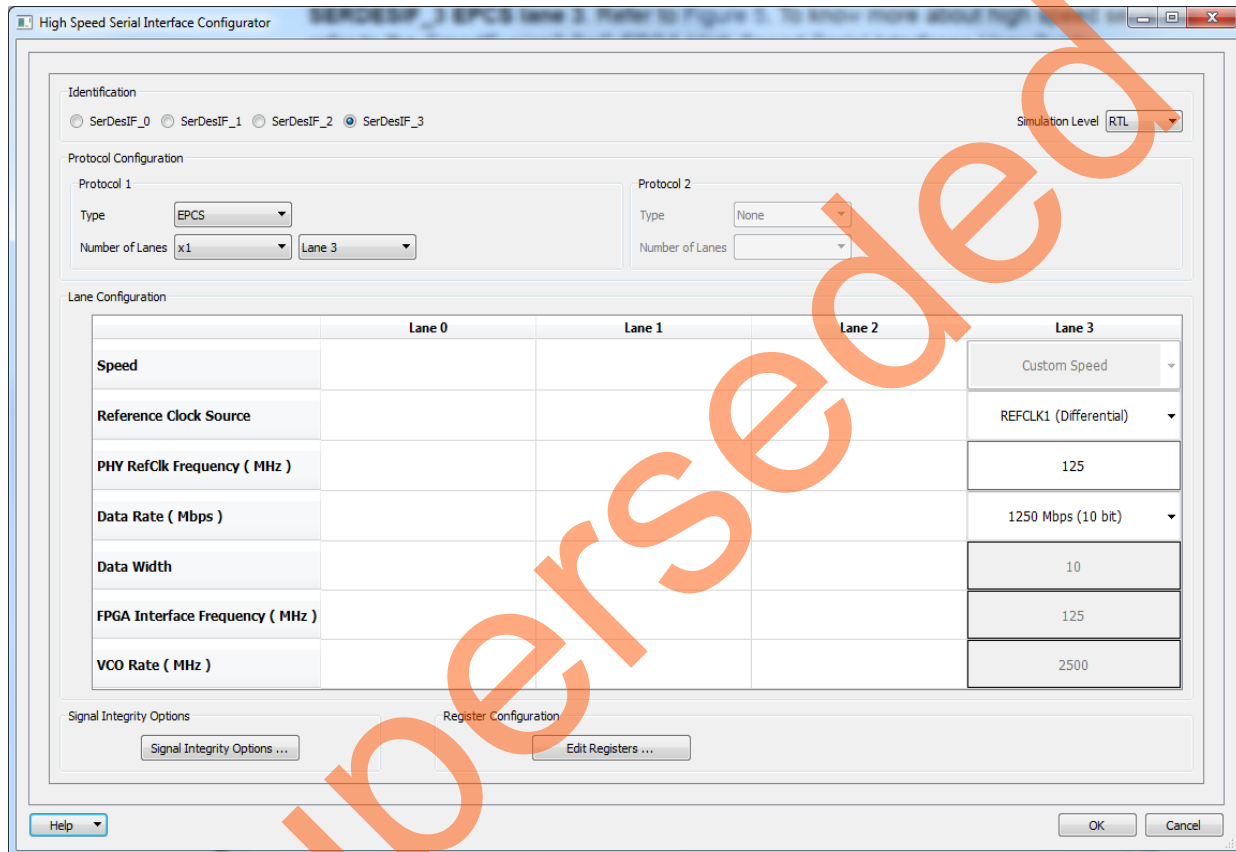

Figure 5 • High-Speed Serial Interface Configurator Window
4. **High speed serial interface (SERDESIF) SERDES_IF IP**: Configured for **SERDESIF_3 EPCS lane3** as shown in Figure 5.